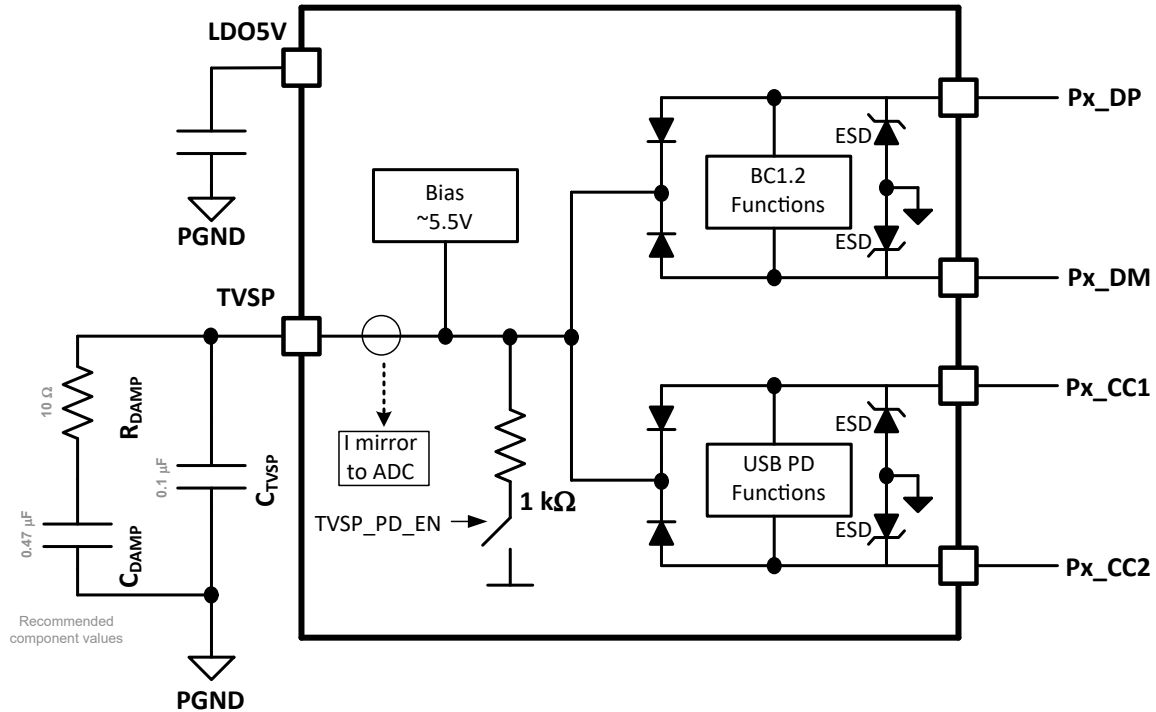

Figure 9-4. Basic TVSP Pin Connection
- **R_{TVSP} :** At power on, the resistance between the TVSP pin and PGND determines the boot method, USB PD port I²C addresses and I²C logic thresholds. Refer to Table 9-4 and Table 9-5. The most common configuration is shown in Figure 9-4 with R_{TVSP} open, corresponding to TVSP Index 0. During device initialization and boot, typically within 4 seconds after power on, V_{IN} must be above 7.6 V to ensure proper bias of the TVSP pin to 5.5 V. Once boot is complete the device can operate over the full V_{IN} range.